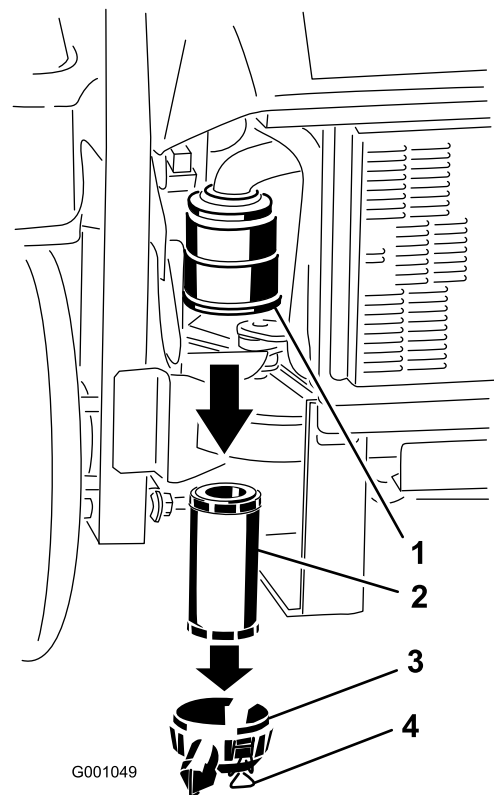

Figure 43
3. Release the latches on the air cleaner and pull the air-cleaner cover off the air-cleaner body (Figure 43).
5. Gently slide the filter out of the air-cleaner body (Figure 43).